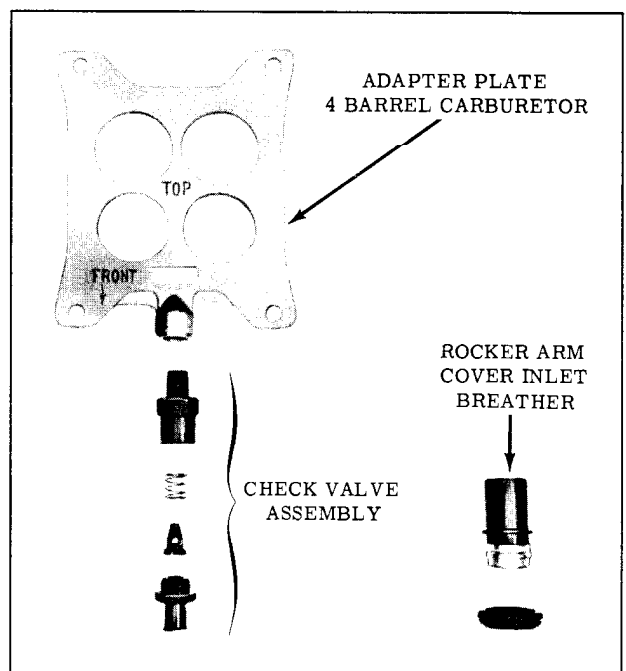

Fig. 2-2 Adapter, Check Valve and Breather
be removed, cleaned in a solvent and re-oiled at every oil change interval. (Fig. 2-2)
- c. Assemble check valve as shown in Fig. 2-2.